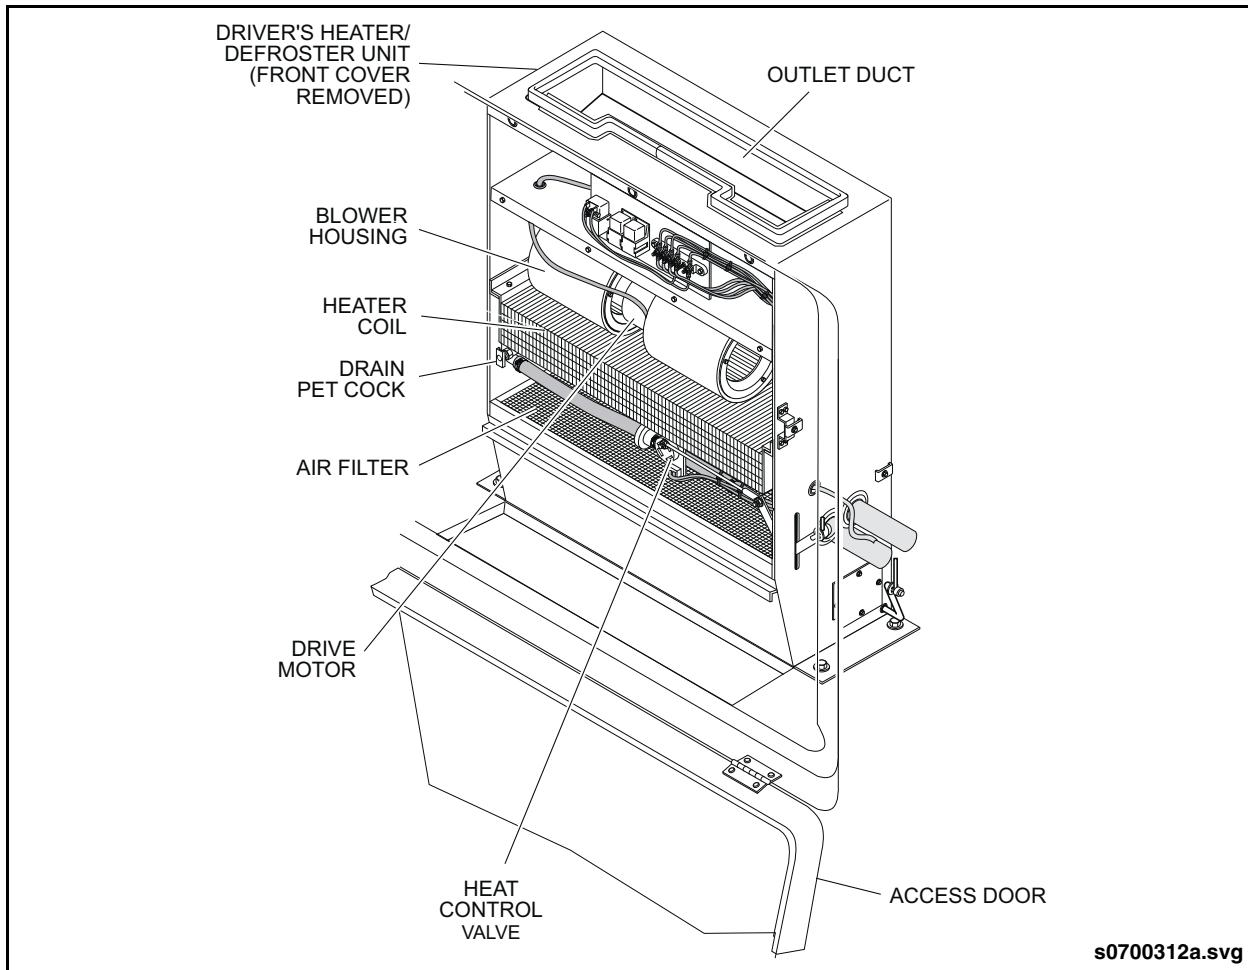

Fig. PM-26: Defroster Inspection
- Inspect air filter. Clean or replace as required. See "Fig. PM-26: Defroster Inspection" on page 58.